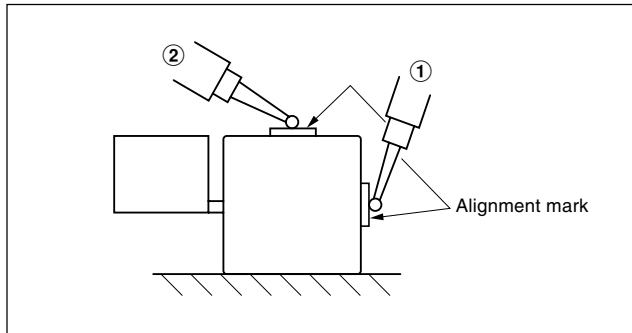

Fig. 3-7 Parallelness check of scale and machine table movement
(4) Measuring parallelism of scale with machine table movement
Place a dial gauge directly where the alignment mark (Fig. 3-7 ① in the figure below) is positioned on the side of the scale, and check that the scale is surely mounted parallel to the machine table movement.
Insert spacers below the feet and make adjustment by placing a dial gauge at ② in Fig. 3-7 to adjust the parallelism to within 0.08 mm/0.03" throughout the length between may be obtained at the alignment marks.